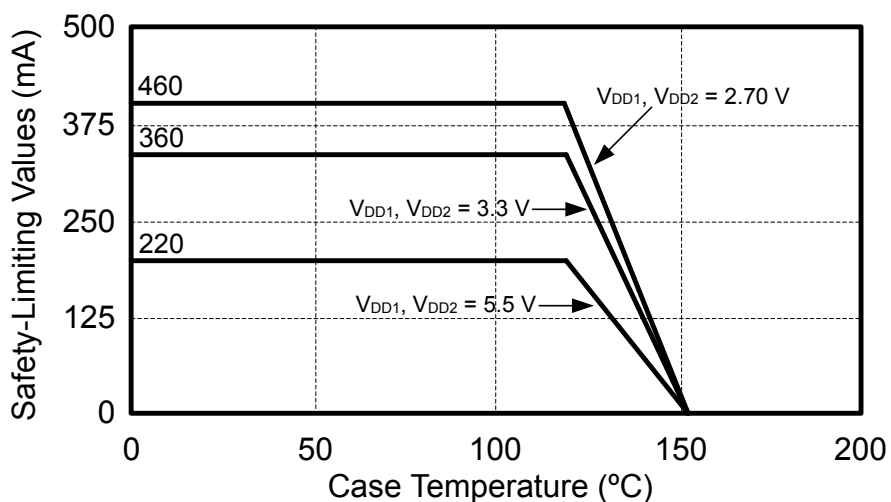
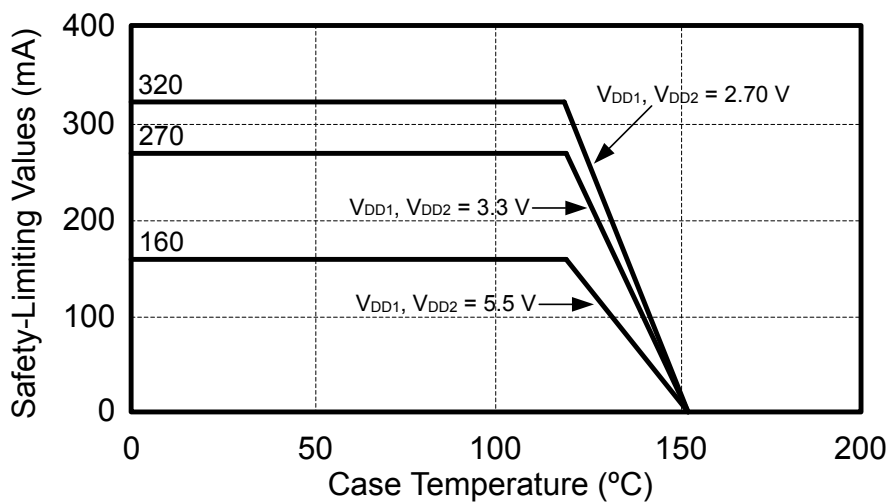

Figure 5.2. (WB SOIC-16) Thermal Derating Curve, Dependence of Safety Limiting Values with Case Temperature per DIN EN 60747-5-5
Figure 5.3. (NB SOIC-8) Thermal Derating Curve, Dependence of Safety Limiting Values with Case Temperature per DIN EN 60747-5-5
1. Maximum value allowed in the event of a failure; also see the thermal derating curve in Figure 5.2 (WB SOIC-16) Thermal Derating Curve, Dependence of Safety Limiting Values with Case Temperature per DIN EN 60747-5-5 on page 23 and Figure 5.3 (NB SOIC-8) Thermal Derating Curve, Dependence of Safety Limiting Values with Case Temperature per DIN EN 60747-5-5 on page 23 .